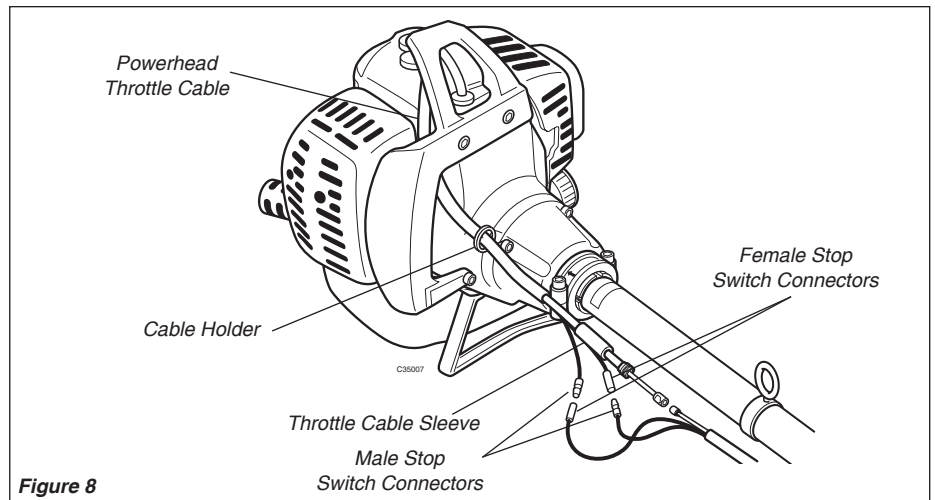

Figure 8
1. Route the powerhead throttle cable through the cable holder. See Figure 8.
2. Install the throttle cable sleeve on the powerhead throttle cable. See Figure 8.
3. Connect the stop switch wire connectors (two wires). See Figure 8.